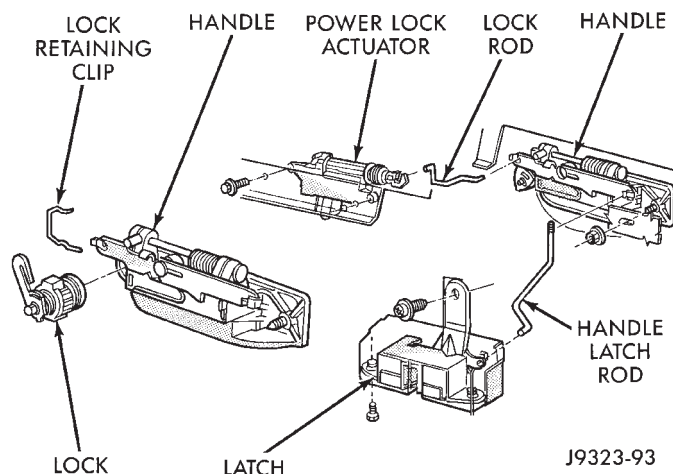

Fig. 7 Liftgate Latch/Lock Components
(4) Remove the three screws securing the liftgate latch to the liftgate (Fig. 7).